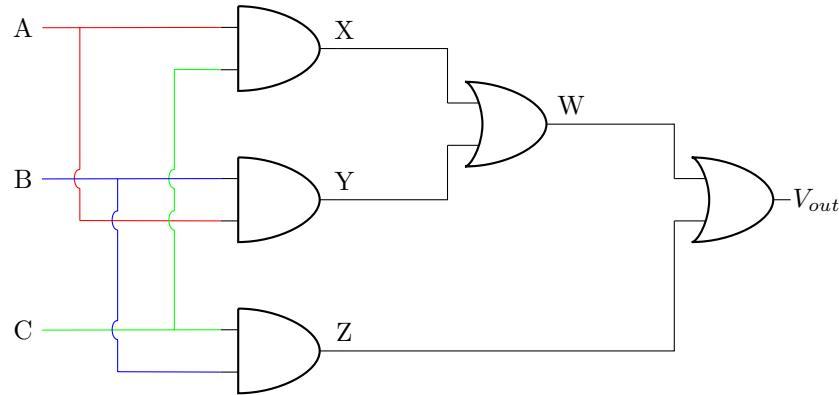

Figure 8.1: Logic Gate Circuit
- Fill out the truth table in Table 6 using Figure 8.1.
Table 6: Truth Table for Figure 8.1
- C. Construct the circuit seen in Figure 8.1. You may use any number of AND and OR chips to build your circuit. **Remember to keep track of your inputs and outputs carefully, as to avoid confusion.**